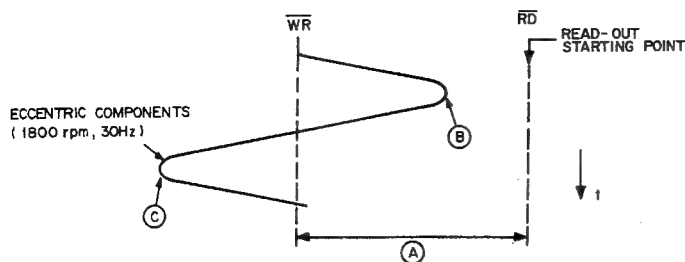
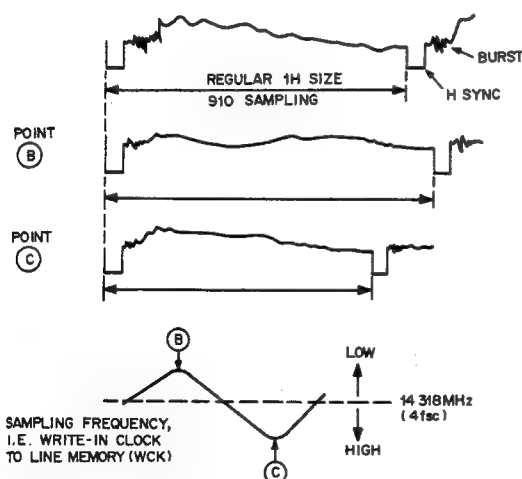

Fig. 3-4
Fig. 3-5
Even when the  $\overline{WR}$  point fluctuates to the left and right, data read-out is possible without overflow or lack of data from the line memory unless the eccentricity components exceed the length  $\textcircled{A}$  in Fig. 3-4. In other words, the line memory functions as a variable delay line to absorb eccentricity components in the same way as the conventional CCD. The difference with the CCD is that there is no signal deterioration due to fluctuations of the CCD clock since digital signal processing is performed using A/D converted data.
Actually, since the spindle servo functions so that the period  $\textcircled{A}$  in Fig. 3-4 is separated by about  $1/2H$ , eccentricity components of approx.  $\pm 30 \mu s$  can be absorbed by the line memory and time axis correction is made possible.
Since the PBH period is longer than the REFH period at point (B) in Fig. 3-4, the 1H period is longer than usual, and is shorter at point (C). (See Fig. 3-5.)